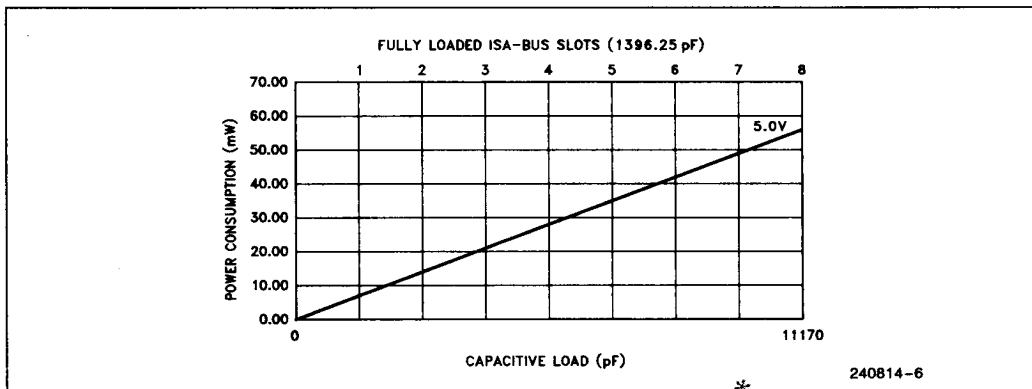
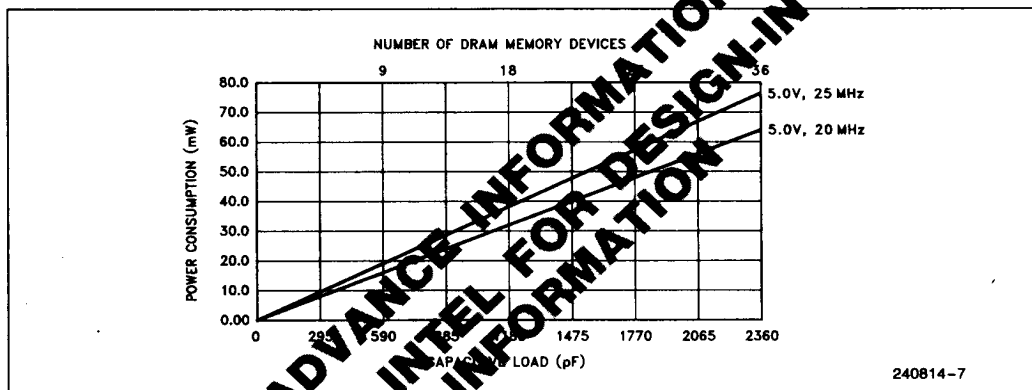
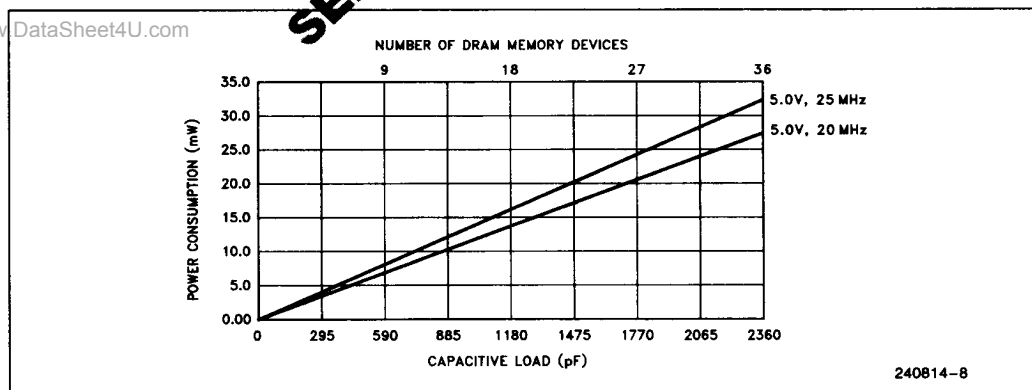

Figure 2.3. ISA Bus
Figure 2.4a. Memory Bus without Cache
Figure 2.4b. Memory Bus with Cache
Figure 2.3 illustrates the power consumption in milli-Watts with respect to the capacitive loading on the ISA bus signals of the Intel386 SL CPU. A set of two curves with VCC at 5V and CPUCLK frequencies at 20 and 25 MHz are plotted in Figure 2.4a. This set of curves is provided for the memory bus without a cache subsystem in Figure 2.4a. The power consumption with respect to load capacitance for the memory bus with a cache subsystem is illustrated in Figure 2.4b. To find the Power (P in milliWatts) of the Intel386 SL CPU for the configuration of your system, use the following method.
2. From the curves in Figure 2.3, use the voltage of your system and the total capacitive load of all of the Intel386 SL CPU ISA signals to find the power consumed by the ISA-bus interface.
3. If a cache is connected to the Intel386 SL CPU in your system, use Figure 2.4b to find memory bus power. If cache is not connected, use Figure 2.4a.
From Figure 2.3, the power consumed by the ISA expansion bus interface is found to be 15 mW (the total capacitance of all the pins of a fully loaded AT-bus slot is 1396.25 pF). For a system with no cache, the power consumed by the memory bus for 8 chips is about 15 mW from Figure 2.4a. The internal power at 20 MHz is 1220 mW from Table 2.3-5. The power consumed by Intel386 SL CPU is the sum of the power for the internal power (ISA bus and CPU core) and memory bus. The total power consumed by the Intel386 SL CPU for this system is 1250 mW.
For a system with cache, the ISA bus interface power is 15 mW as previously determined. The memory bus interface power is determined from Figure 2.4b is found to be 8 mW. The internal power remains 1220 mW. The cache bus power is read off from Table 2.3-6 to be 30 mW and the cache internal power from Table 2.3-7 is 170 mW. Hence, in this system, the Intel386 SL CPU consumes a total of 1443 mW.